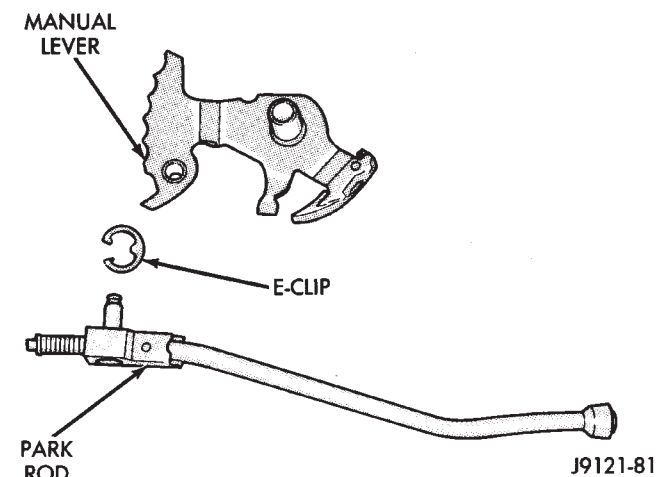

Fig. 44 Park Rod
- (10) Remove park rod E-clip and separate rod from manual lever (Fig. 44).